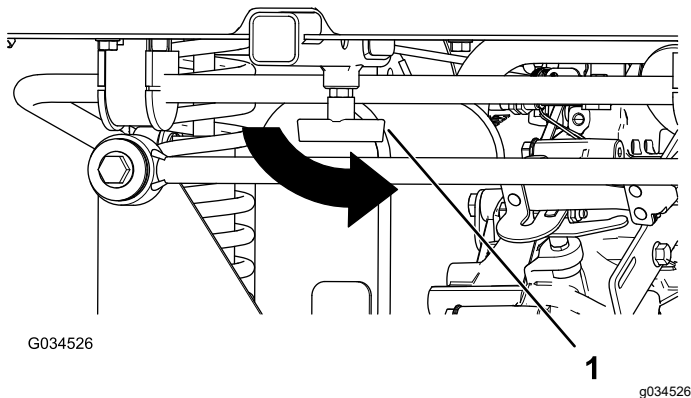

Figure 22
4. Tighten the “T” handle by rotating it counterclockwise (Figure 22).